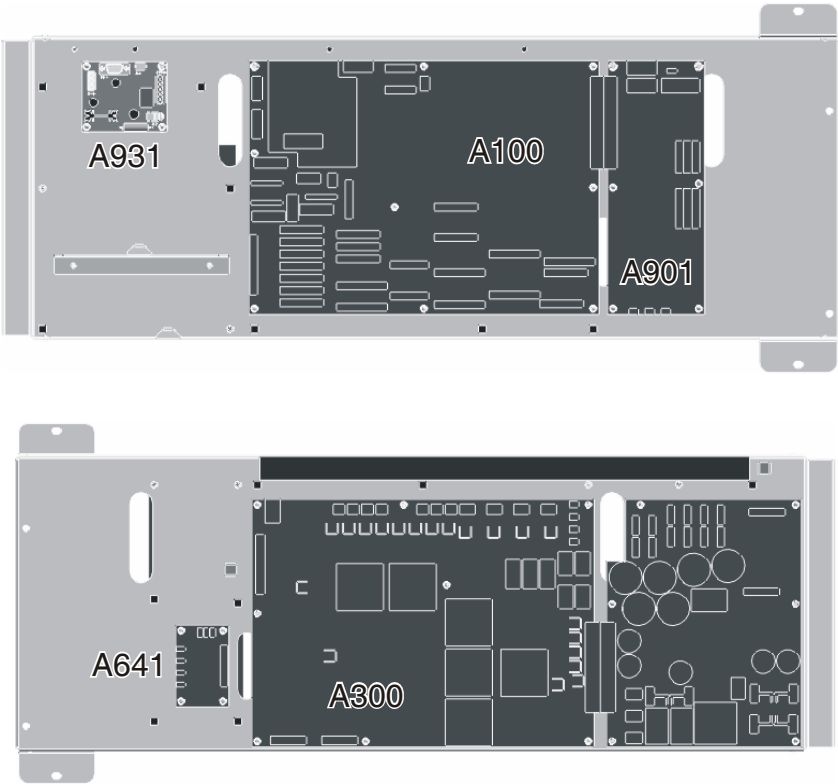

Fig. 11-14 Board APOCONV 300 kVA
**NOTE** Mounting plates see Fig. 11-14 and Fig. 11-15.